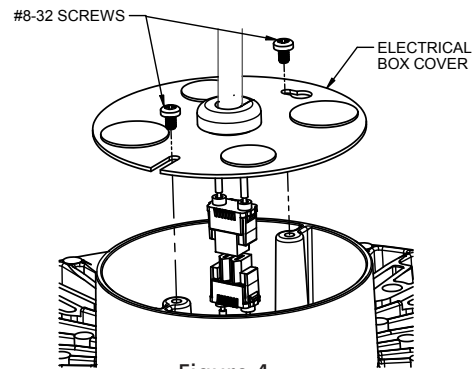

Figure 4
5. Attach Electric Box Cover to Housing with (2) 8-32 screws. (See Figure 4)